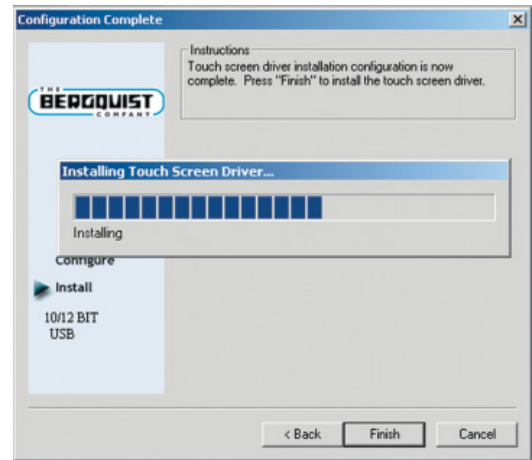

Figure 6
12. Click "Finish" (see Figure 6).